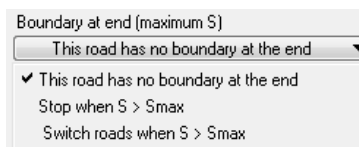

Figure 42. Drop-down control to choose an option for a boundary at the end of a road.
- ③ Drop-down control to specify an option for a boundary at the end of the road (Figure 42). If a boundary exists, it is located at a specified maximum station S.